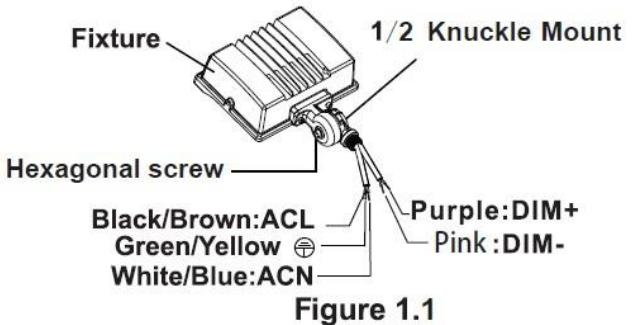

Figure 1.1
2. Loosen the screws and adjust the fixture to the desired position before tightening (Figure 1.1) to the desired position.